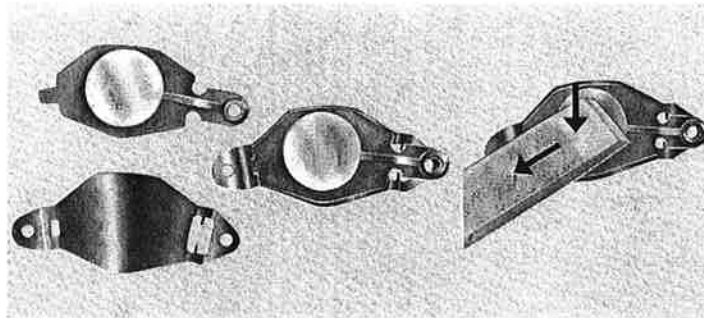

Fig. 5
- Apply a slight pressure on the centre of the circuit with a leather buff and slide the circuit under the two protruding tongues of the bridle (Fig. 5).